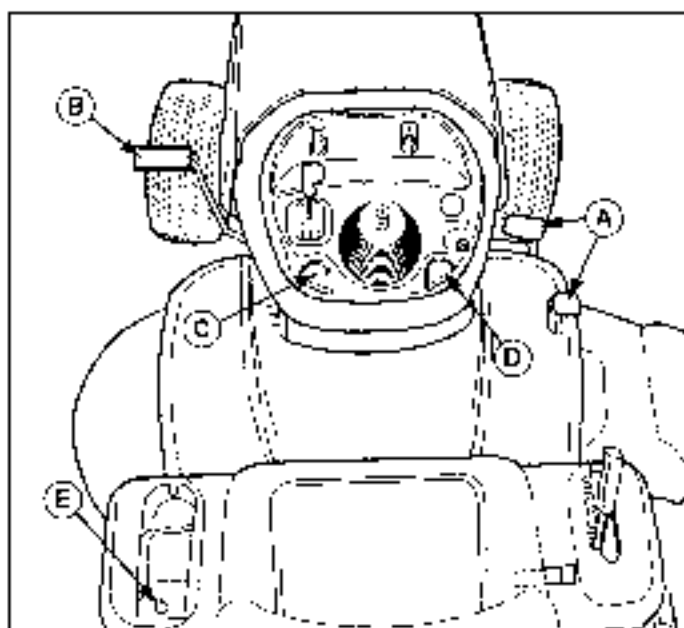

Figure 3. Engaging the Parking Brake
1. Remove the fuel cap (A, Figure 3).
**Applying the Parking Brake** - See Figure 3. To lock the parking brake, release the ground speed pedals (A), fully depress the brake pedal (B), pull UP on the parking brake knob (C), and then release brake pedal.
**Releasing the Parking Brake** - See Figure 3. To release the parking brake, depress the brake pedal (B).
1. Pull up on the cruise control knob (D, Figure 3).
2. Depress the forward ground speed pedal (A).
3. Lift up the cruise control knob (D) when desired speed is reached. The cruise control will lock in one of its six locking positions.
1. Depress the brake pedal (B, Figure 3).